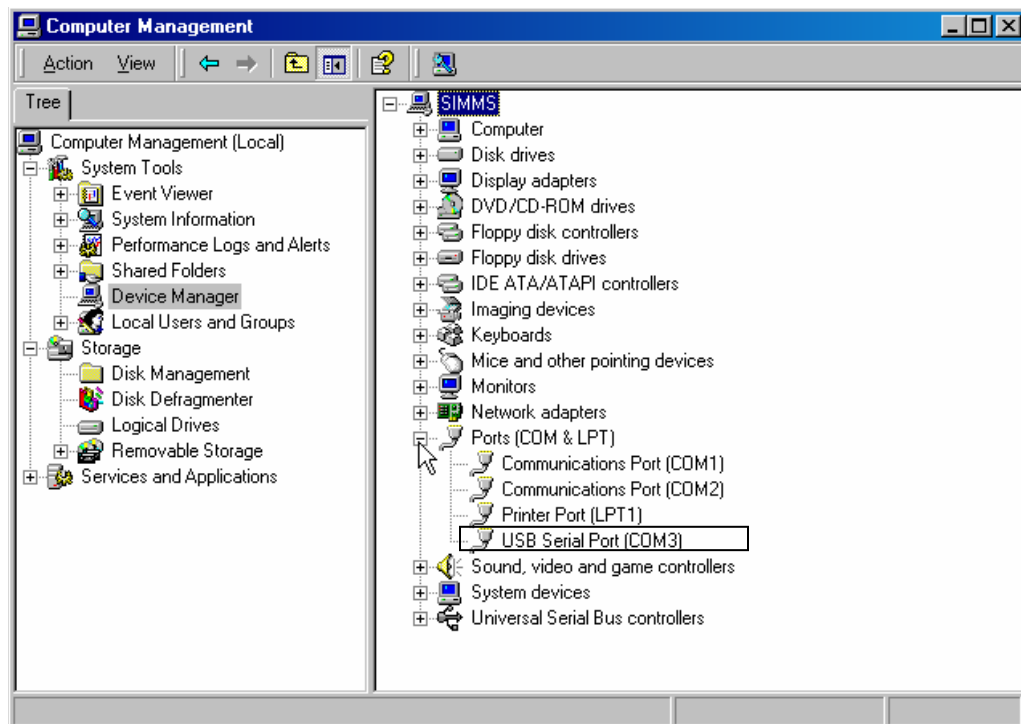

Figure 24: Computer Management Window
2.	Click on “Device manager” to open the Device manager’s panel (screen right panel) shown in Figure 24.